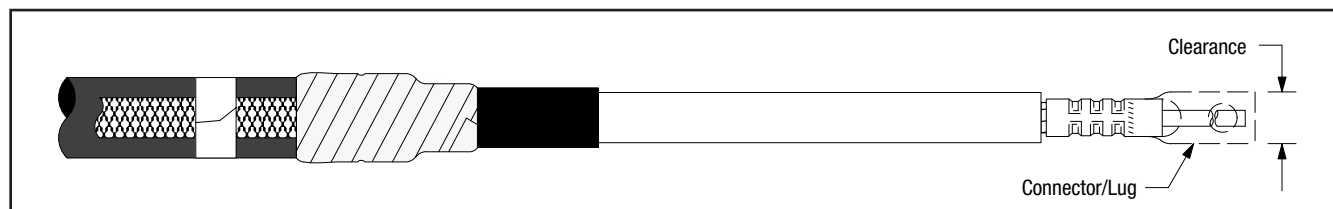

Figure 15
- 9.1 Check to insure 3M Cold Shrink QT-III Silicone Rubber Termination assembly fits over the selected lug or connector BEFORE installing the lug or connector.** If lug or connector. (Figure 15) will not fit through the termination core, clean the insulation (per Step 10.0) and slide termination on cable before installing lug or connector. **DO NOT REMOVE CORE AT THIS TIME.**